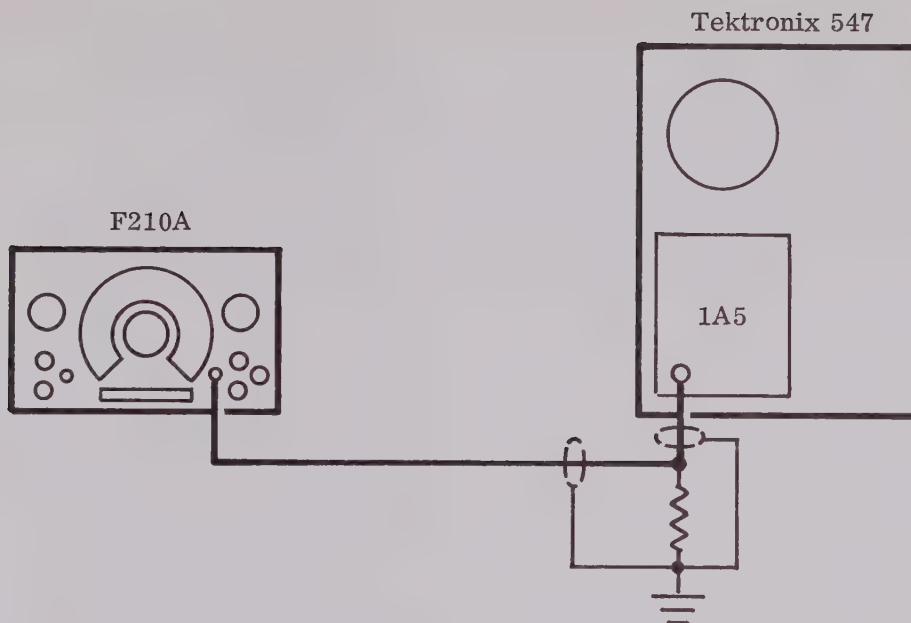

FIGURE 3-10
2. Interconnect the equipment as shown in Figure 3-10, observing signal and ground connections carefully.